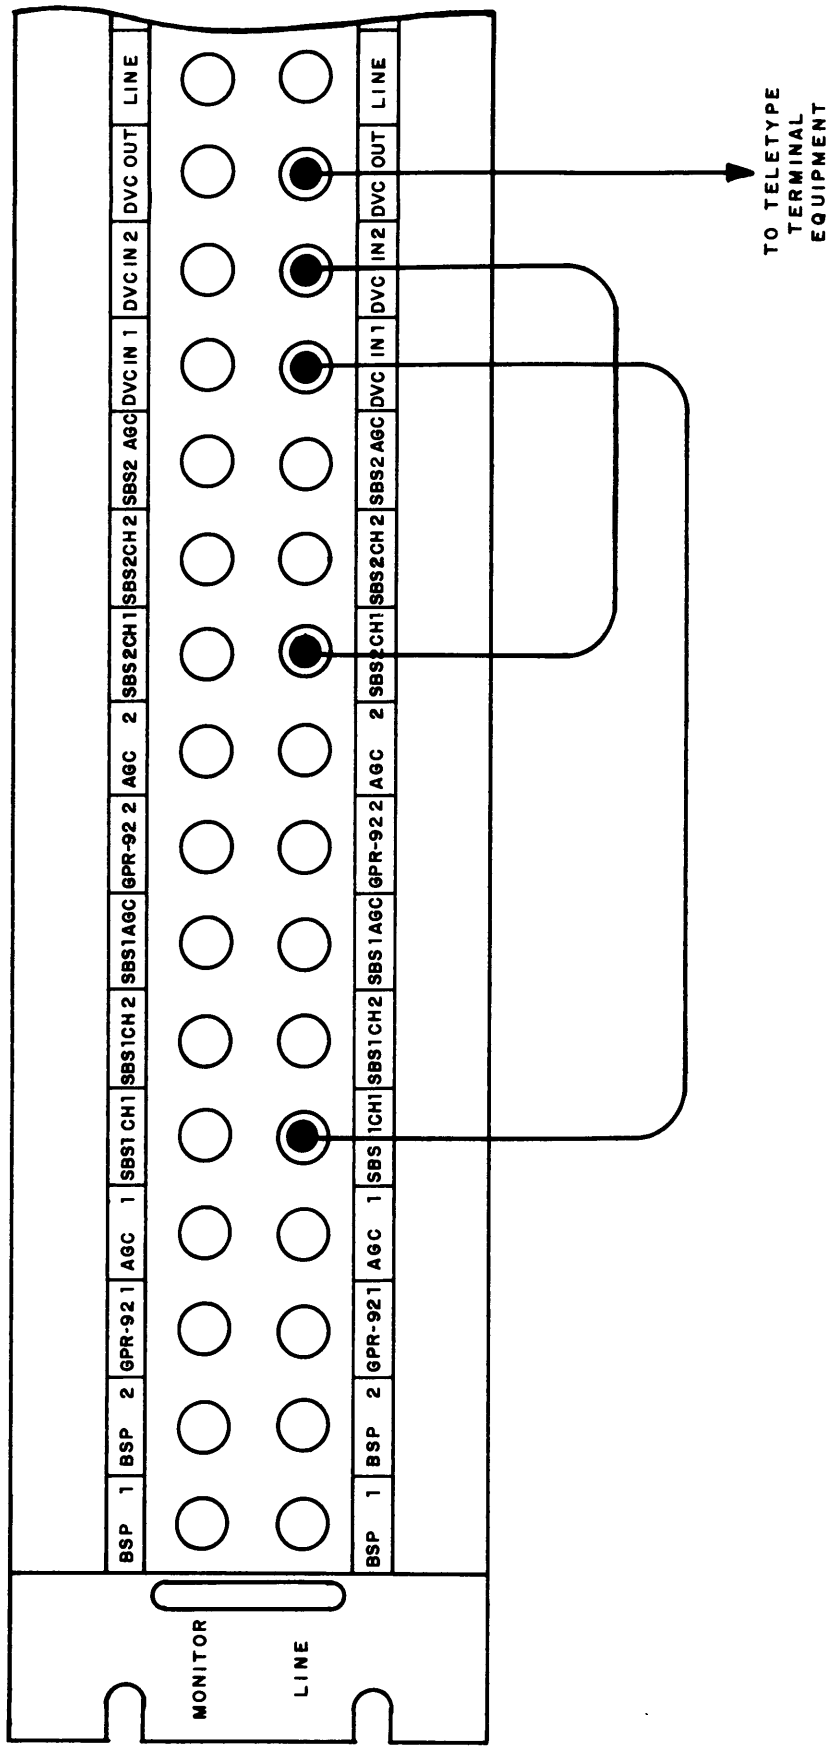

Figure 3-4. Patchcord Connections When Using Teletype Equipment and Sideband Selectors
(a) Make patch-cord connections on Line Patch Panel LPP-4 as shown in figure 3-4.
- (1) Make patch-cord connections on Line Patch Panel LPP-4 as illustrated in figure 3-4.
- (2) Start the DDR-8 as outlined in paragraph 3-3d.
- (3) On Communications Receivers GPR-92 No. 1 and GPR-92 No. 2, set IF SELECTIVITY switch (7) at 7.5 KC.
- (4) On Sideband Selectors SBS-1 No. 1 and SBS-1 No. 2, set CHANNEL A DETECTION switch (60) at SSB.